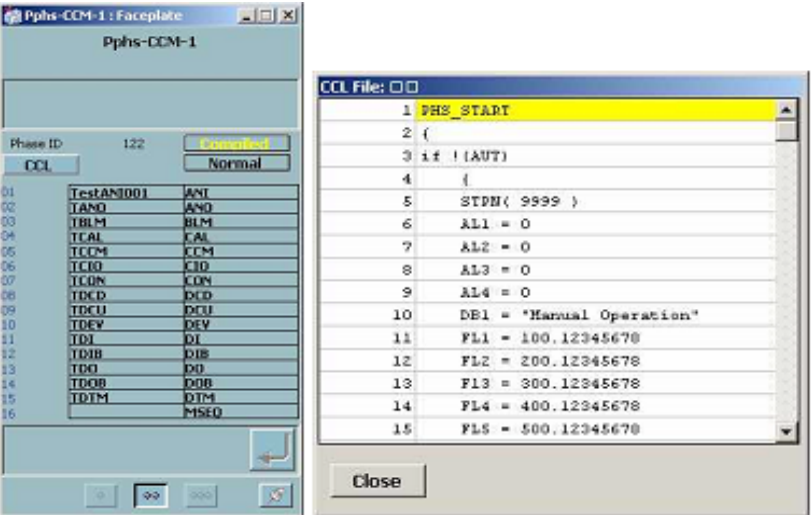

Figure 194. PHS Module (with CCL Pop-up)
**Phase (PHS).** The Phase module faceplate represents a phase operation function block in an 800xA for DCI controller. The PHS module reports the phase ID, the CCL (Controlware Command Language) file currently associated to the phase module, and the pseudo device names and types used by the CCL file for display in the faceplate. Figure 194 shows the layout of the PHS normal sized faceplate along with a CCL pop-up and its attributes.